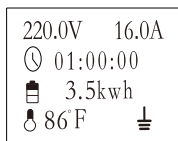
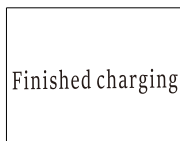

Fig.1
Fig.2
5.1.1 Insert the plug into the wall socket, green light is on, control box is powered on normally. The screen interface is as shown in Figure 1.
5.1.4 After charging is completed, green light is shown. (Fig. 1) and (Fig. 2) alternate display.